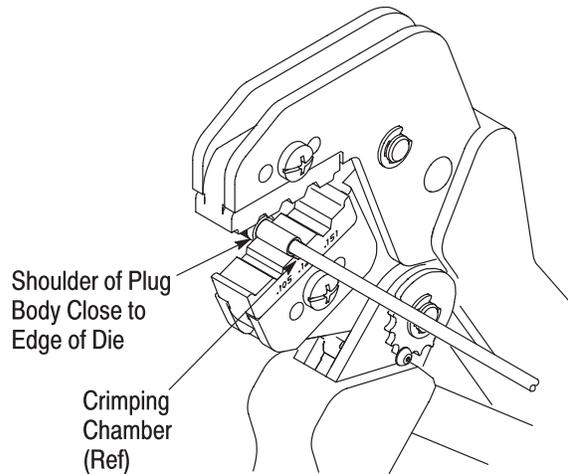

Figure 3
3. Place the ferrule in the appropriate crimping chamber on the anvil die so that the shoulder of the plug body is close to the edge of the die. Refer to Figure 3.